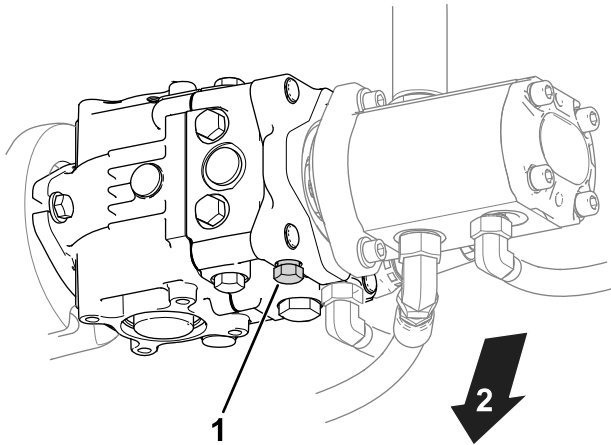

Figure 28
1. Locate the bypass valve on the pump (Figure 28).